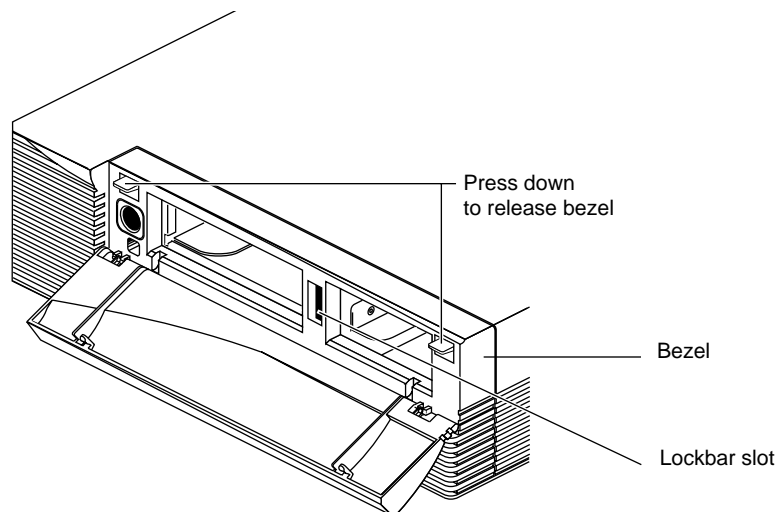

Figure 1-3 Releasing the Bezel
- Press down on the tabs on each side of the bezel, as shown in Figure 1-3.